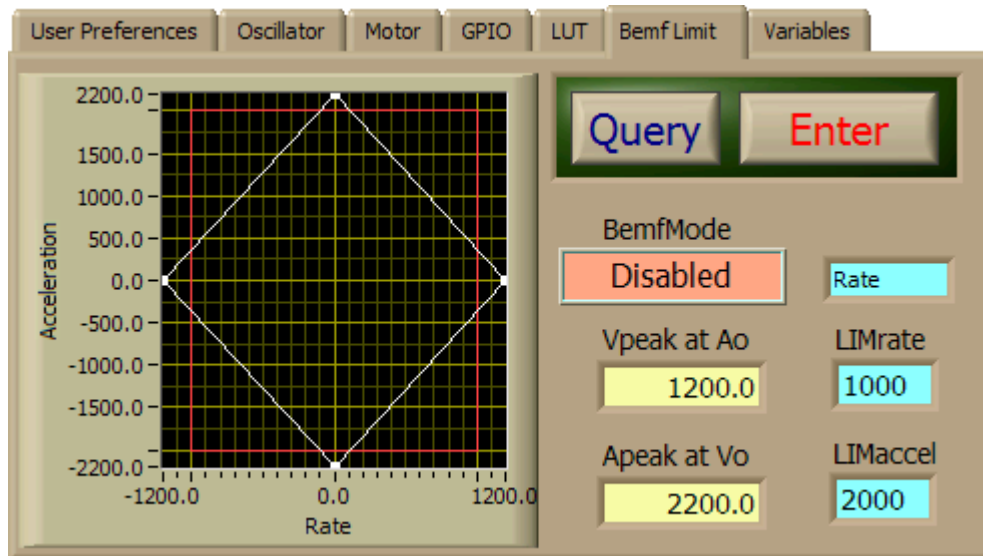

Figure 4-40 BEMF Configuration Sub-Panel, BEMF Disabled
Nominally all axes would have a square torque vs. speed curve. However, because of the highly non-linear torque vs. speed curves that occur with most amplifier/motor combinations, saturation of the servo control loops during large transients would be inevitable without some form of trajectory control that incorporated knowledge of the torque vs. speed curve. The trajectory generator built into the Acutrol3000 has a feature that allows for a non-square torque speed curve. This feature is called Back-EMF limiting, or BEMF limiting for short. The BEMF Limit feature is controlled through the **BEMF LIMIT** Sub-Panel (see Figure 4-40 - Figure 4-42).
- . In this mode the BEMF Limit algorithm is disabled and will not affect the axis acceleration limit. See Figure 4-40.